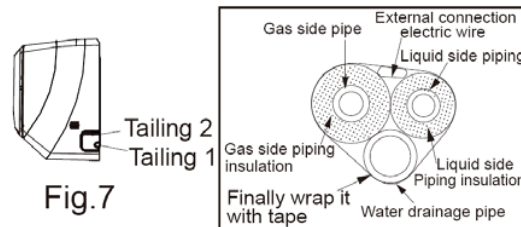

Fig.7
(1) When routing the piping and wiring from the left or right side of indoor unit, cut off the tailings from the chassis when necessary (As shown in Fig.7).